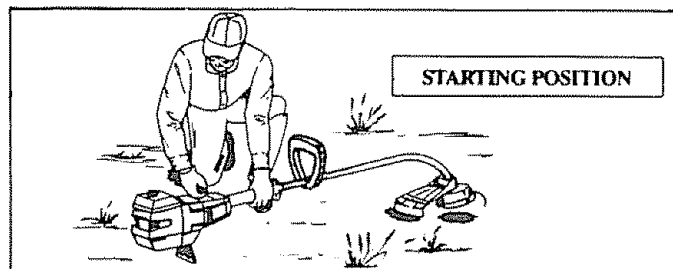

Figure 12
- c. Rest Engine and Shield on ground, supporting Trimmer Head off the ground away from trees, bushes, onlookers, etc. Figure 12.